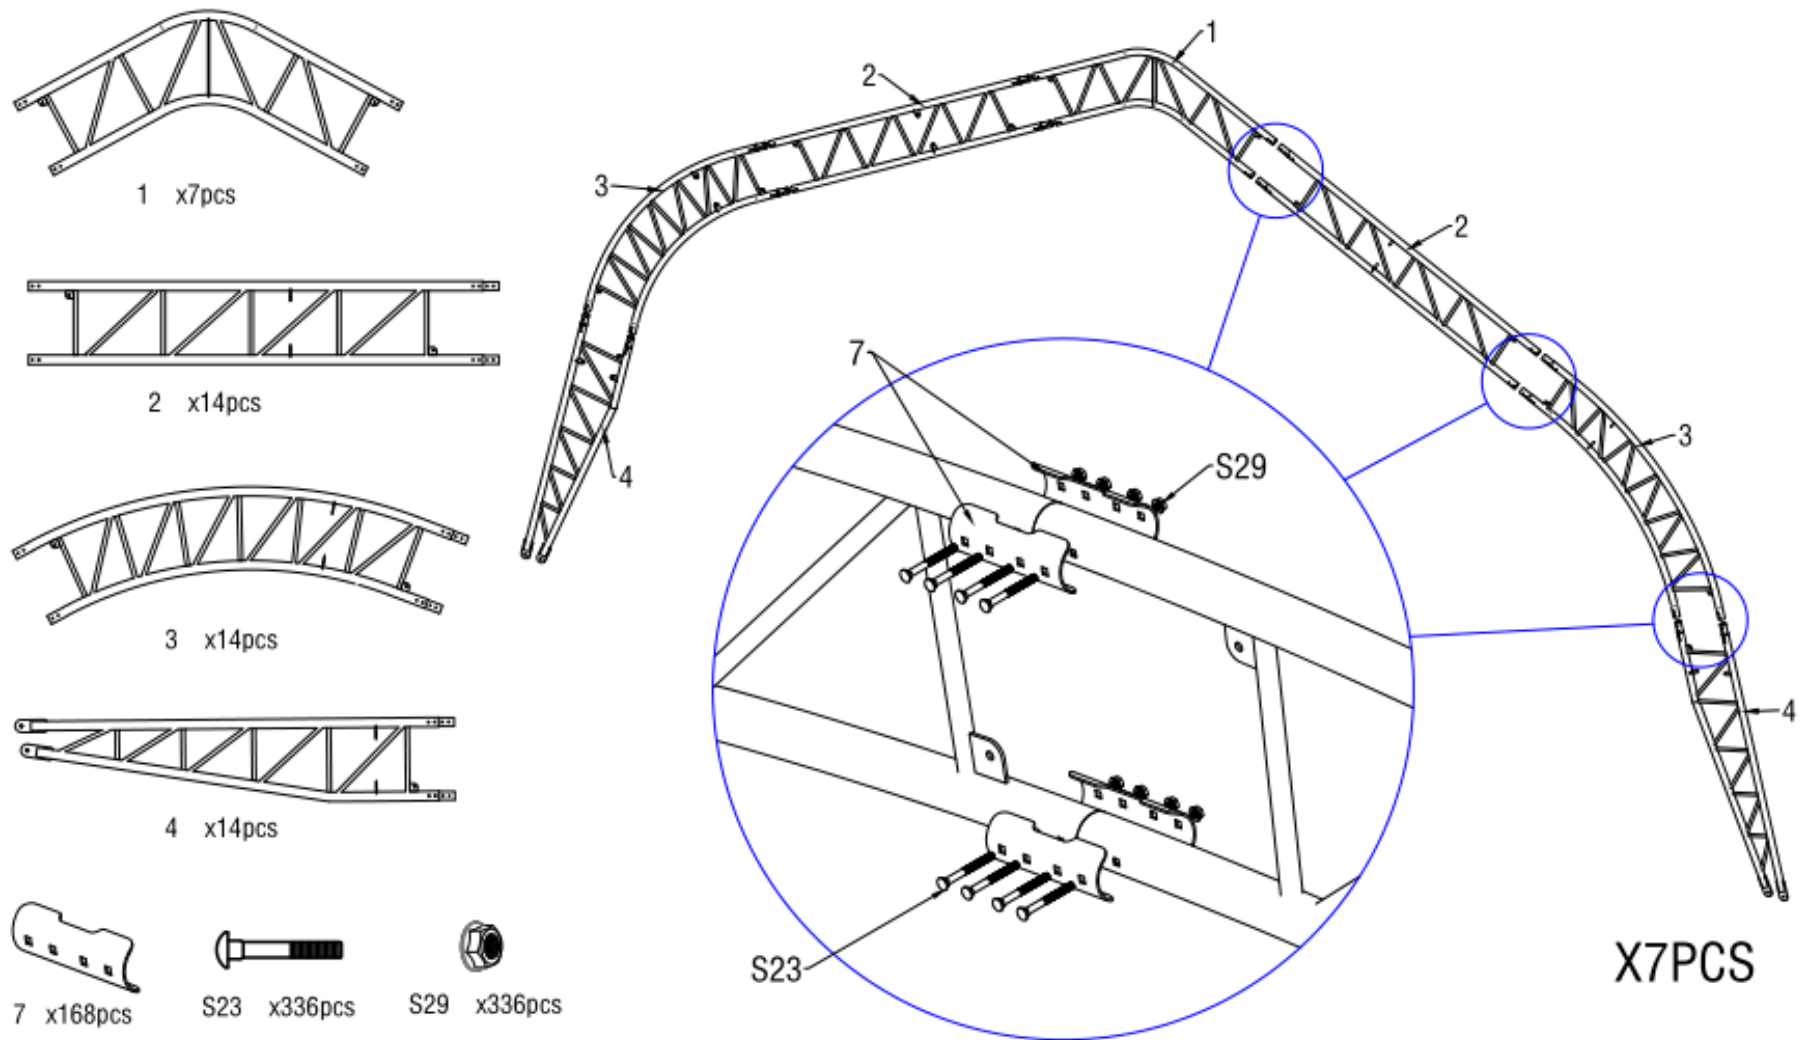

Figure 4
- As Figure 4 shown to find one Top roof tube (No.1), two Roof upper curving tube (No. 2), two Roof middle curving tube at shoulder (No. 3) ,two Lower curving tube (4) and assemble every group arch with Screw M8x80 (No.S23). **DO NOT install the screw on the top of the truss where the fabric will rest.**
Note: Top Roof tube,Roof curving tube and Lower curving tube (No.1A,2A,3A&4A) which are welded with steel plates for front and back doors are different from the middle arch.(Figure 4)